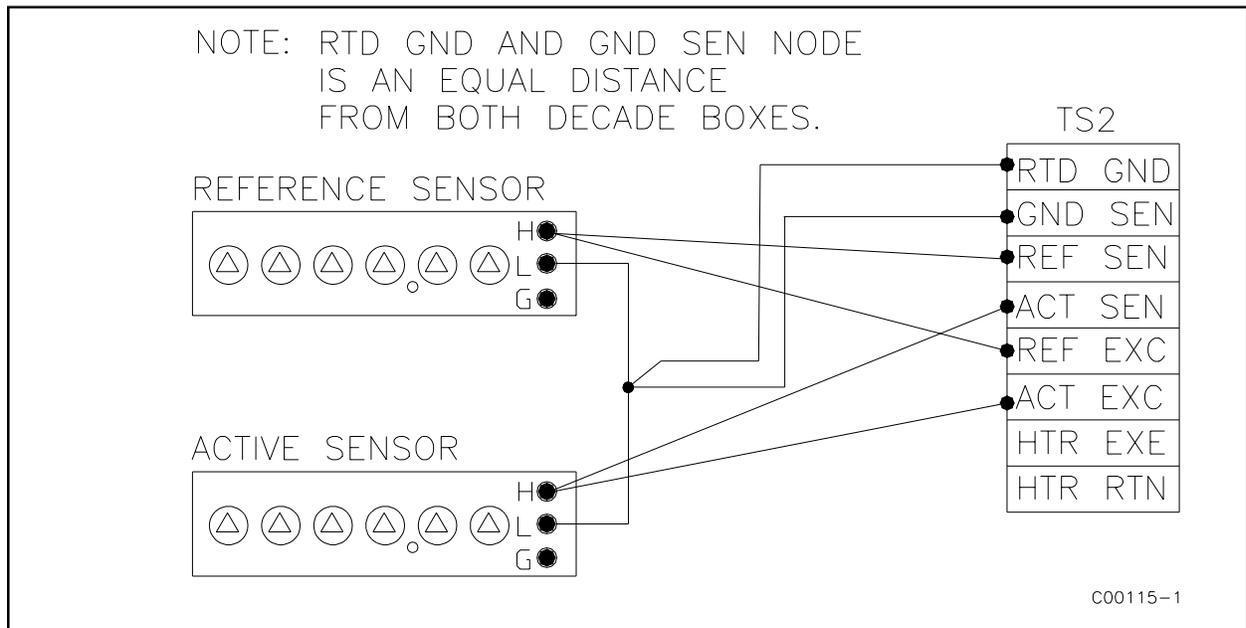

Figure 5-4. Decade Box Connections
3. Connect the resistance decade boxes to terminal strip TS2 (or the terminal block for remote instruments) as shown in Figure 5-4. Check the Delta R Data sheet for the nominal resistance value. Set the decade boxes for the nominal resistance value $\pm 0.01\%$.